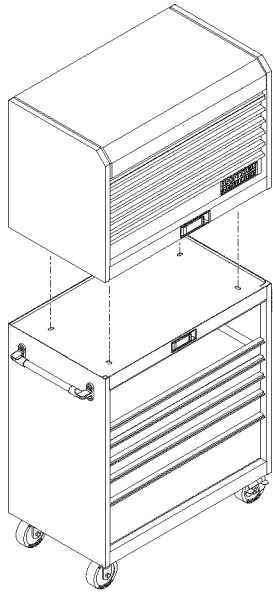

Figure 8
- Attach the chest using (4) screws inserted from the underside of the top of the cart. (See Figure 8)